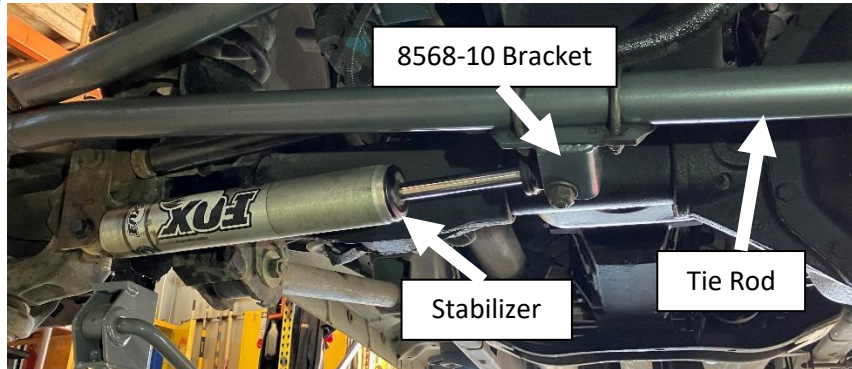

Figure 20. Steering Stabilizer Shown Mounted to 8568-10 Bracket
32. Attach the free end of the stabilizer to the 8568-10 bracket as shown. Install the 1/2-20 UNF x 2.5" long bolt and use a washer under both the bolt head and stover nut. Do not fully tighten bolt at this time. See **Figure 20**.